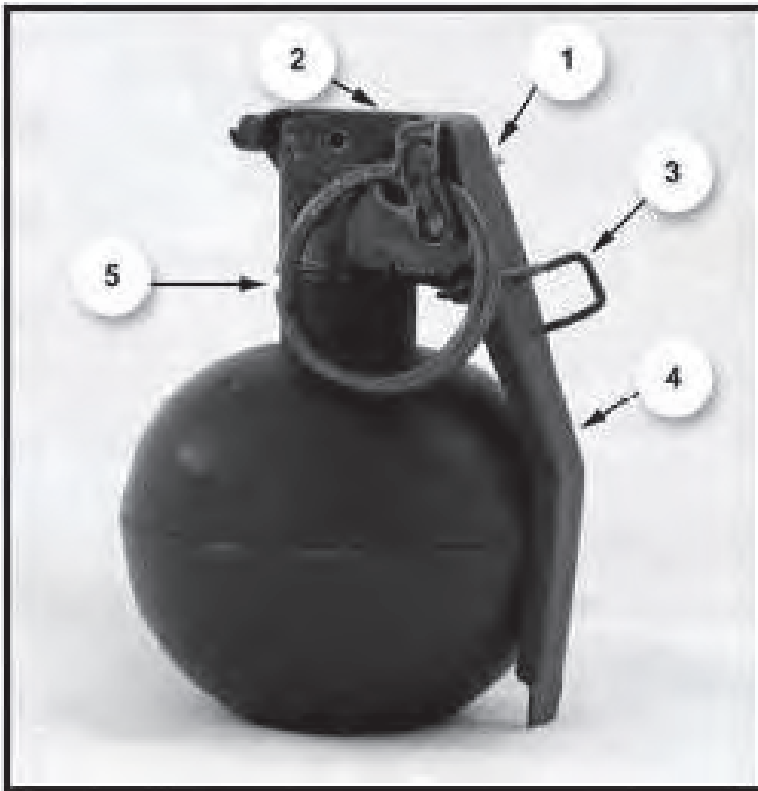

Figure 071-325-4401-3. Grenade components.
- (1) Check for rust on the body or the fuze.
- (2) Ensure holes are not visible in the body or the fuze.
- (3) Check hand grenade for cracked body.
- (4) Place back in canister if any defect(s) are found, if applicable.
- b. Ensure the safety pin (1) is secured properly (Figure 071-325-4401-3).